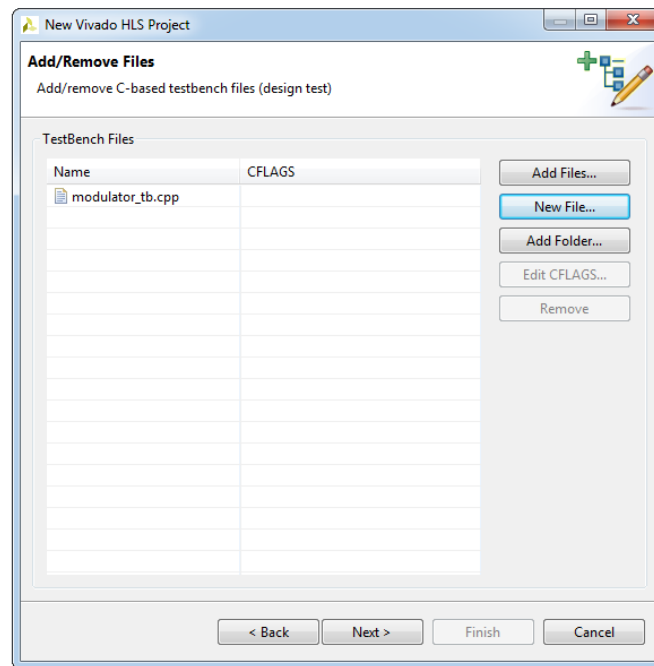

Figure 2.8: Add/Remove TestBench Files dialog box with added testbench file
- After adding the new **modulator_tb.cpp** testbench file, it should appear as a part of the **TestBench Files** section, as it is shown on the Figure 2.8.